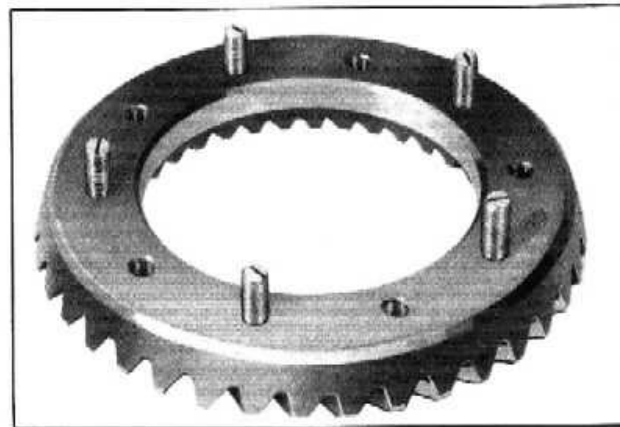

Fig. 10—Use of Guide Pins in Ring Gear
3. When replacing the ring gear, it is good practice to use five guide pins made by cutting the heads from $\frac{3}{8}$ " - 24 cap screws about $1\frac{1}{2}$ " long. Slots should be cut in the heads of these guide pins so that they may be easily removed with a screwdriver. Install these guide pins in alternate bolt holes in the ring gear, Fig. 10, and slip the ring gear over the pilot diameter of the case, making sure that the back face of the ring gear and the face of the case are free from dirt and burrs. Install every other ring gear bolt and draw them up evenly and snugly so that the ring gear face is flush with the face of the case. Remove the guide pins and install the remaining bolts.